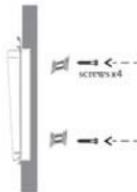

Figure 3-10
G. Put the installed machine into the groove in the door, tighten it from the back of the door with 4 screws, and fix the machine with the decorative piece and bracket, as shown in Figure 3-10.